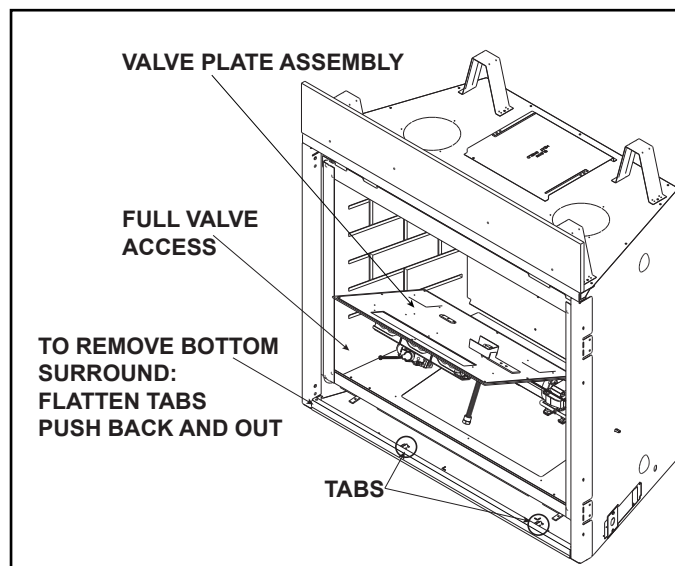

Figure 9.4 Gas Valve Access (Generic Fireplace Shown)
- Remove decorative barrier front, glass, logs, base pan assembly, burner assembly and valve plate assembly. See Figure 9.4.